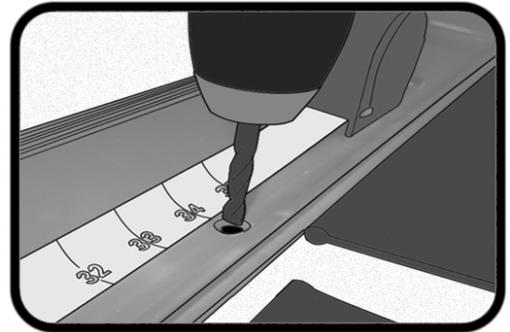

Fig. 1
**Step 1:** Measure from the motor end of the Lid Hinge. Make a mark exactly 34" from the end, approximately 1" from the "C" Channel. Use the drill with a 5/16" bit to create a hole at the mark. **(Fig. 1)**